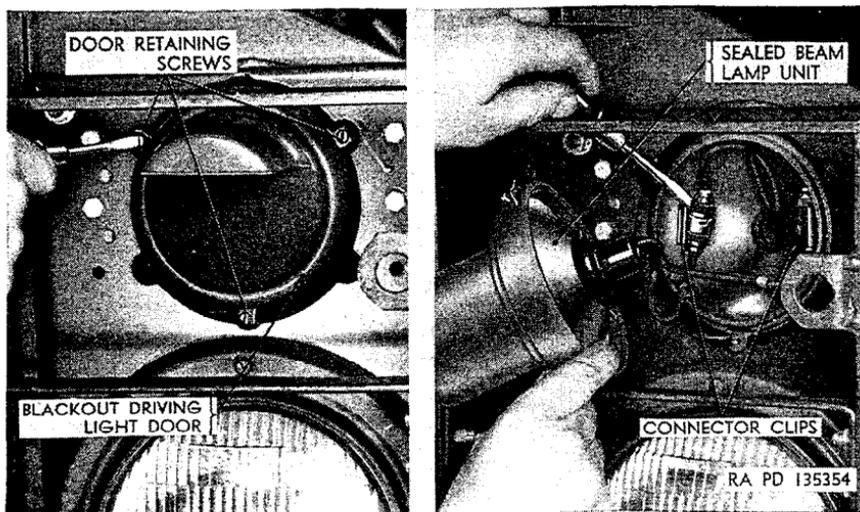
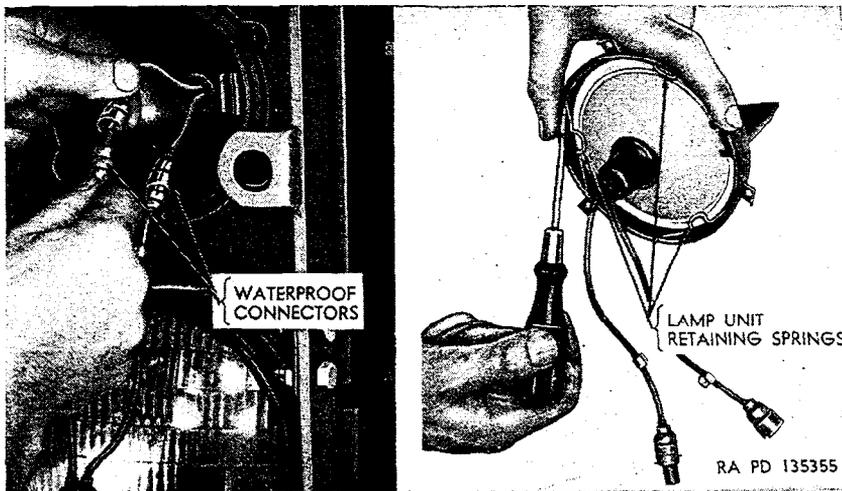

Figure 186. Removing blackout driving light.
Figure 187. Removing sealed-beam.
- (1) Remove three door-retaining screws (fig. 186) from blackout driving light door.
- (2) Pull door and sealed-beam lamp-unit assembly forward and remove waterproof connectors from connector clips (fig. 186).
- (3) Disconnect waterproof connectors (fig. 187).
- (4) Remove three lamp-unit retaining springs (fig. 187) and remove lamp unit from door.
- (1) Position sealed-beam lamp-unit in blackout-driving-light door (cover) and secure with three retaining springs (fig. 187).
- (2) Connect lamp-unit cables to wiring harness cables (fig. 187) and fasten cable connectors in connector clips (fig. 186).
- (3) Position door (fig. 186) and lamp unit assembly on front of light body and install three door-retaining screws. Tighten screws.
- (4) Operate light switch (par. 49f) to test blackout driving light.